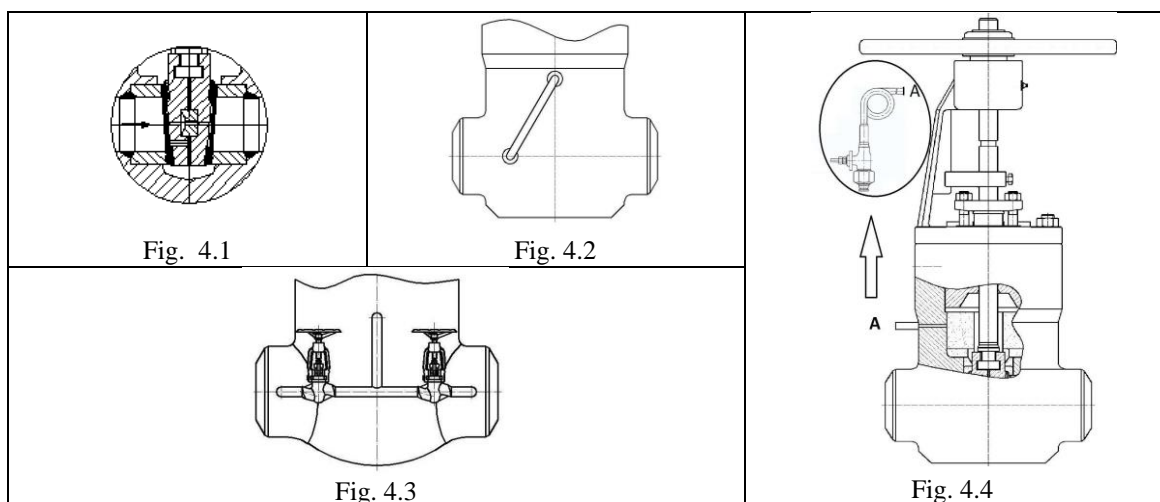

Figure 4. Overpressure safety executions
- Re-tighten diametrically opposite all the bolts as per factory specifications to overcome possible bolt relaxation during long-term storage (Fig.4)
- In case in the gate valve in the closed position the temperature of the fluid (mainly water) increase in the chamber above the wedge impermissibly high pressure can occur. In order to prevent failure or damage of pressure-relating parts gate valves should be equipped with some of the presented constructive solutions (Figure 4). For gate valves where flow is always in one direction simplest overpressure safety device should be provided with hole in the wedge / seat (Figure. 4.1) or by equalizing pipe (Fig. 4.2). When gate valve is bidirectional overpressure safety device should be provided by equalizing pipe and bypass valves (Figure 4.3). One of approved execution is installation of safety valve in the gate valve body (Figure. 4.4).